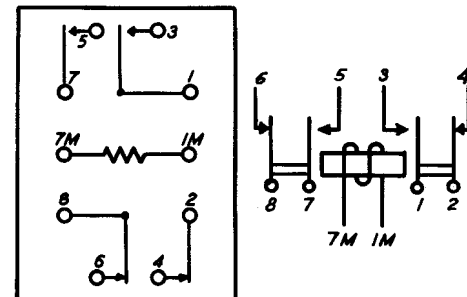

**Fig. 85 – Winding and Spring Terminal Arrangement (terminal side) — KS-5350 and KS-5451 Relays Having Two Horizontal Rows of Terminals**
**2.89** Where the relay has two horizontal rows of terminals the bottom row is designated by the letter B preceded by the same number as the nearest terminal above. (See Fig. 85.)